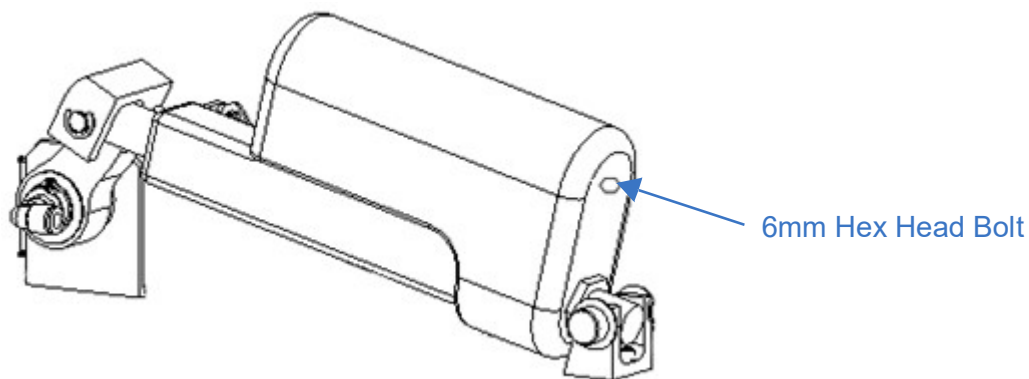

Figure 6-1 Actuator Override for Manual Retraction
4. Remove the 6 mm hex head bolt on the end of the actuator cover (Figure 6-1). This bolt acts as a cap/seal and when removed exposes the manual actuation shaft in the actuator.